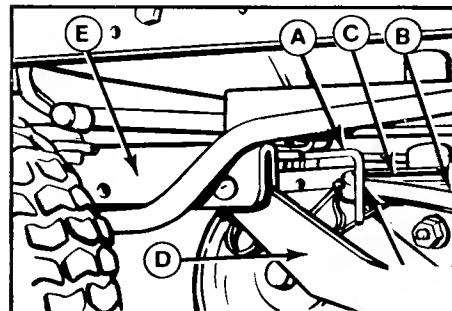
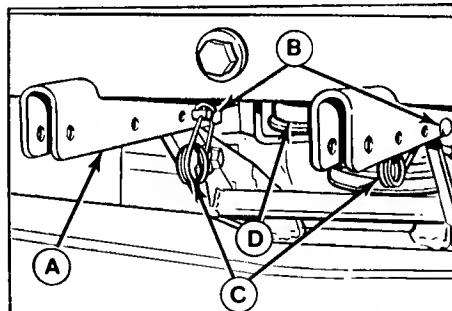

Figure 3. L.H. Belt Stop - All Mowers
Figure 4. Mower Hitch Attached
9. Insert the mower hitch arms in the tractor hitch (figure 3). Align the holes in the hitch arms with the rear holes in the tractor hitch. Insert the pins (B, figure 4) from the outside and install the clips (C).
10. Slip the mower drive belt onto the engine PTO pulley (C, figure 3) loosening belt stops as necessary. The left-hand belt stop is item A in figure 3. The right-hand belt stop is shown in figure 5 (36" mower) or figure 6 (42" mower).